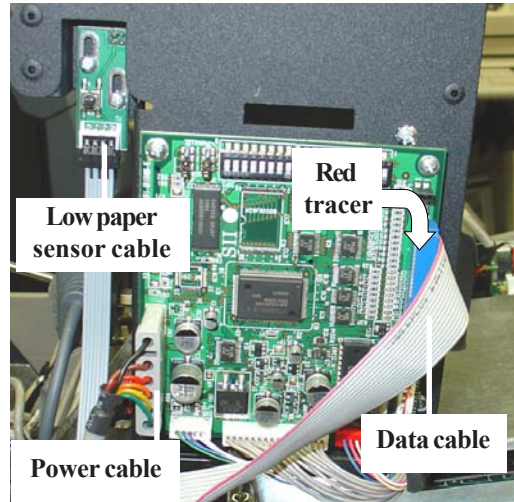

Figure 2. Disconnect cables shown.
2. Disconnect the power, data, and low paper sensor cables from the printer controller board shown in Figure 2. Note the “Red” tracer on the data cable. When reinstalling, the tracer will be facing towards the top as shown.